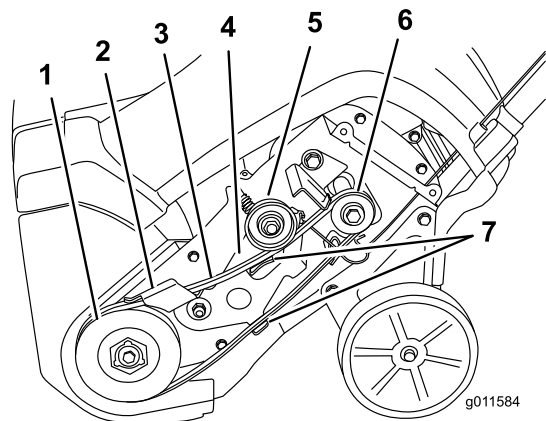

Figure 31
**Important:** Ensure that you install the drive belt so that it sits above the 2 tabs on the idler arm and below the idler-arm brake (Figure 31).